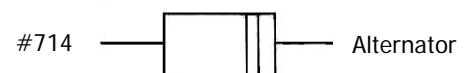

Figure 7-2A Late GM Alternator - Internal Regulator
** If you do not have a One Wire alternator refer to Figure7-2A.